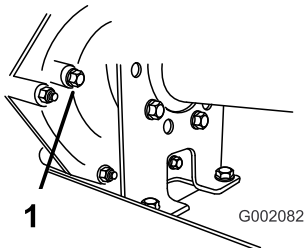

Figure 64
2. Remove the bolt from the level indicating hole (Figure 64).